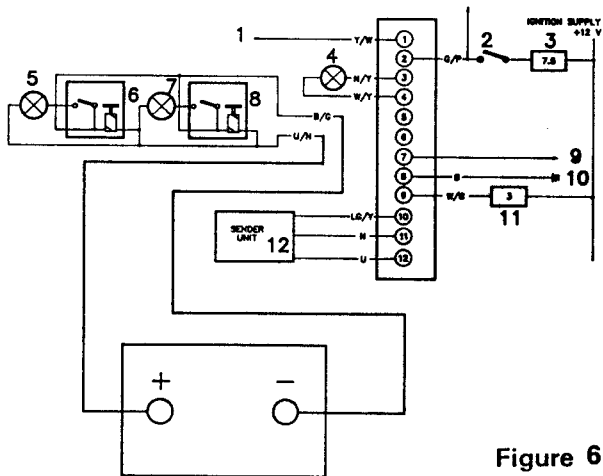

Figure 6
2. Connect positive lead from the 12 volt slave battery to the blue/brown coded wiring supply to the door solenoids and the negative lead from the battery to the black/green coded wiring as shown in figure 6. Making connection should result in the audible operation of both door solenoids.